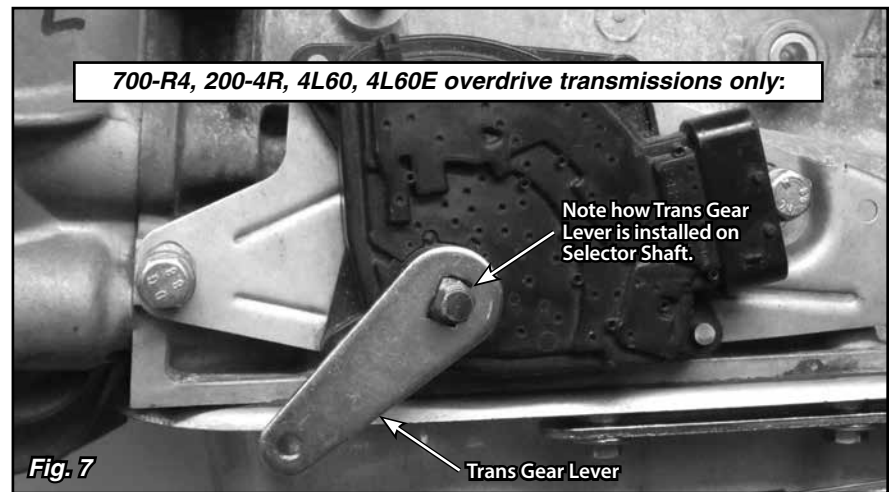

Fig. 7
**NOTE:** 700-R4, 200-4R, 4L60, and 4L60E trans gear levers must be installed so the trans gear lever is in the furthest forward position. Fig. 7 This is so that the cable will have full travel. The bolt hole in the trans gear lever on the 700-R4, 200-4R, and 4L60 transmissions is chamfered on one side. The chamfered side must face towards the transmission. This is required for clearance from the oil pan when the transmission is in low and second gears.